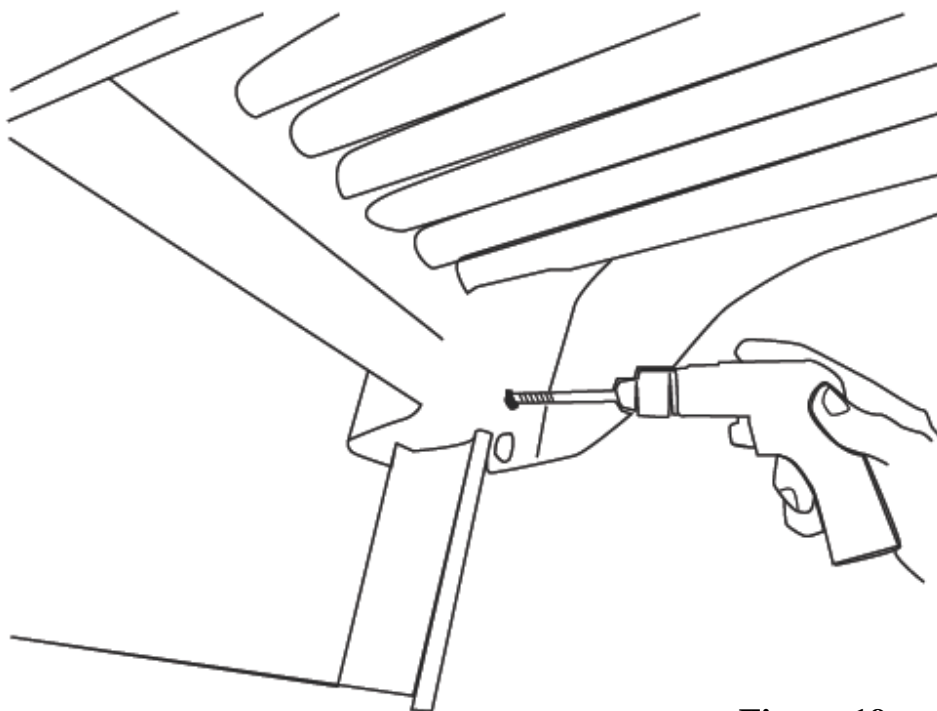

Figure 19
- 19) Underneath the top portion of the slide, on the inside flat surface next to the ladder socket, use the existing holes as a template to drill a 1/4-inch hole through each ladder side rail as shown below in Figure 19.